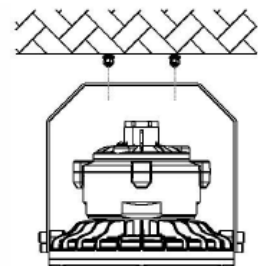

Fig. 3
3. The holes on the bracket align with the expansions shields. (Fig. 3).